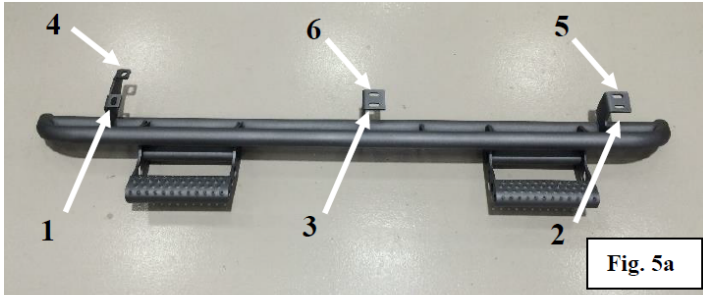

Fig. 5a
- ⚠ c. Torque each bolt location to 17 ft/lbs (+/-25%) using a 12mm socket.** Follow torque sequence in (Fig. 5a)